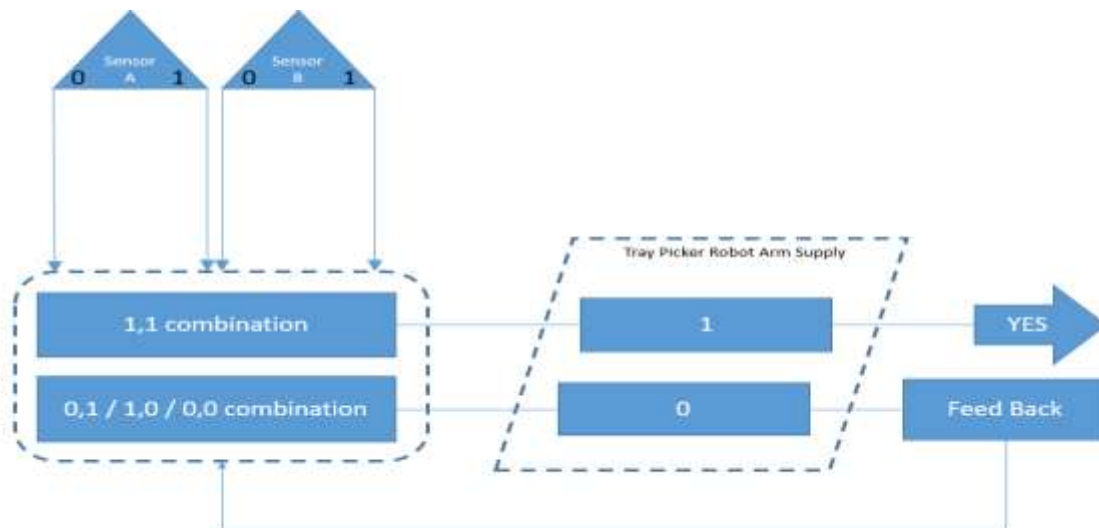

Fig. 7.0 Installed Sensors Simple system diagram.
- Figure 7.0 below illustrate a simple diagram for the installed sensors. On this diagram, two (2) sensors are installed to tightened the dislodged units on tray detection. A combination of sensors signal will give the tray picker robot arm a command to execute or not. Only the 1,1 combination will trigger to continues the robot arm executions but the 0,1/1,0 and 0,0 combinations will have disabled the robot arm execution resulting to persist machine error to call the operator attention. Feedback system has been including to have self-correcting factors on sensors threshold sensitivity.